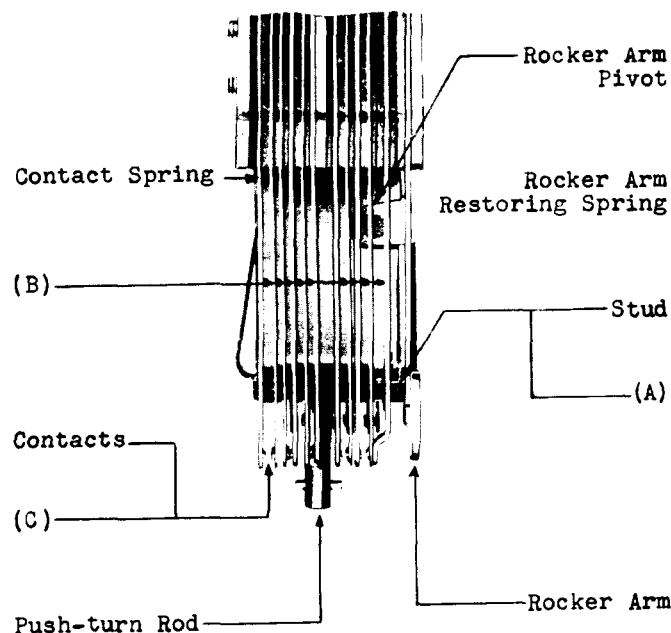

Fig. 6 - No. 580A Key - Top View
2.11 Spring and Stud Clearance - Fig. 6 (A): The spring studs shall clear the springs through which they pass, in all positions of the key. Gauge by eye.
2.12 Separation Between Springs - Fig. 6 (B): There shall be a clearance between adjacent springs whether in the operated or normal positions of the key of Min. .008" Gauge by eye.
2.14 Contact Separation - Fig. 6 (C):